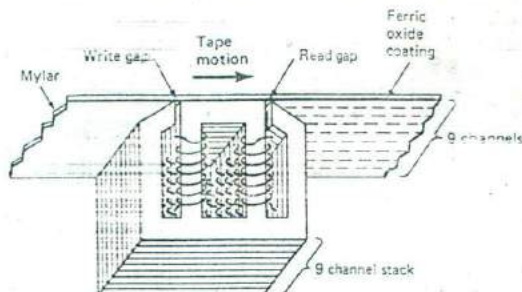
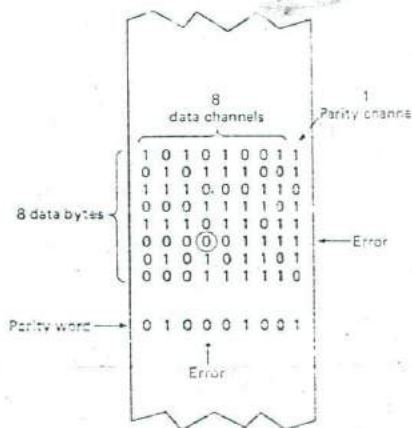

Fig. 13-37 Typical tape read/write head.
Fig. 13-38 Error correcting on nine-channel tape.
Figure 13-37 shows a tape read/write head with separate gaps for writing and reading. This arrangement allows the data to be verified immediately after it is written. The head is actually a stack of nine sections to allow nine tracks or channels to be placed on the tape simultaneously. The nine-track format is convenient because it allows the data to be stored as bytes and allows an extra bit for parity. The parity channel can be used in conjunction with interspersed parity words to provide error correction, as shown in Fig. 13-38. A parity word follows a block of 8 data bytes; this arrangement provides a double-parity check. The illustration shows an odd parity system. All the rows and columns should have an odd number of 1s. The circled bit is in error. It is found at the intersection of the row and column, where the parity is even in both cases. This information is used to locate and change the 0 bit that is in error to a 1. Multiple bit errors may not be detected by this method and cannot be corrected in any case. Actual instances of multiple errors are so low that more elaborate checking is not warranted. When no errors are detected, the parity channel and the parity words are stripped away, and the information is returned to the computer.
28. Refer to Fig. 13-38. What would happen if the top bit in the parity column were read wrong? Assume that there would be no other errors.
29. Refer to Fig. 13-38. Suppose two of the 1s are read as 0s in the top data byte. Assume that there are no other errors. Can the 2 bits be corrected? Which of the 8 data bytes would have to be flagged with a possible error?